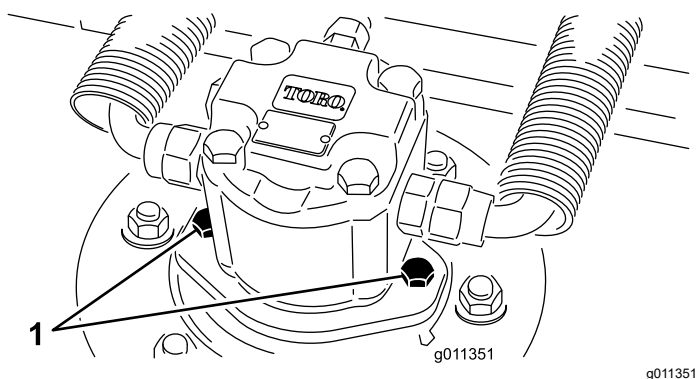

Figure 67
2. Disconnect and remove the hydraulic motor from the deck (Figure 67). Cover the top of the spindle to prevent contamination.
4. Install the hydraulic motor to the deck (Figure 67). Make sure that the O-ring is in position and not damaged.